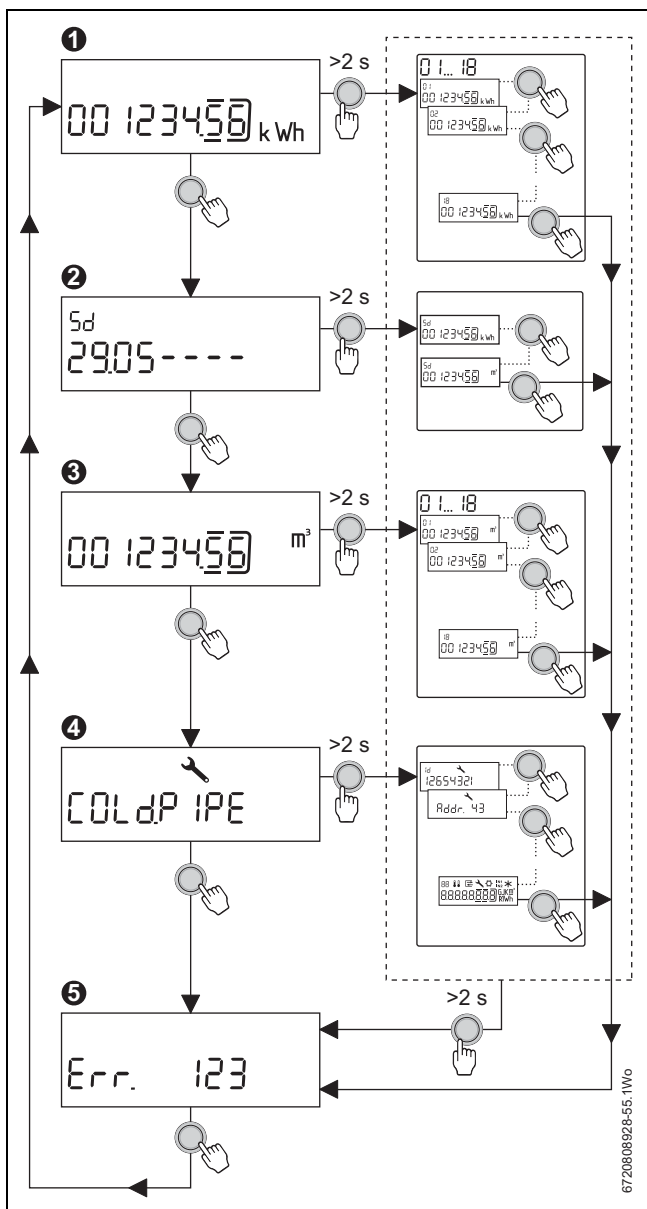

Fig. 51 Menu structure
- **Energy** [1], figure 51.
- **Set day** [2], figure 51.
- **Volume** [3], figure 51.
- **Service** [4], figure 51.
- **Error** [5], figure 51.
- Once all the data has been displayed for the category the display will move to the error display before returning to the default display screen of Energy [1], figure 51.